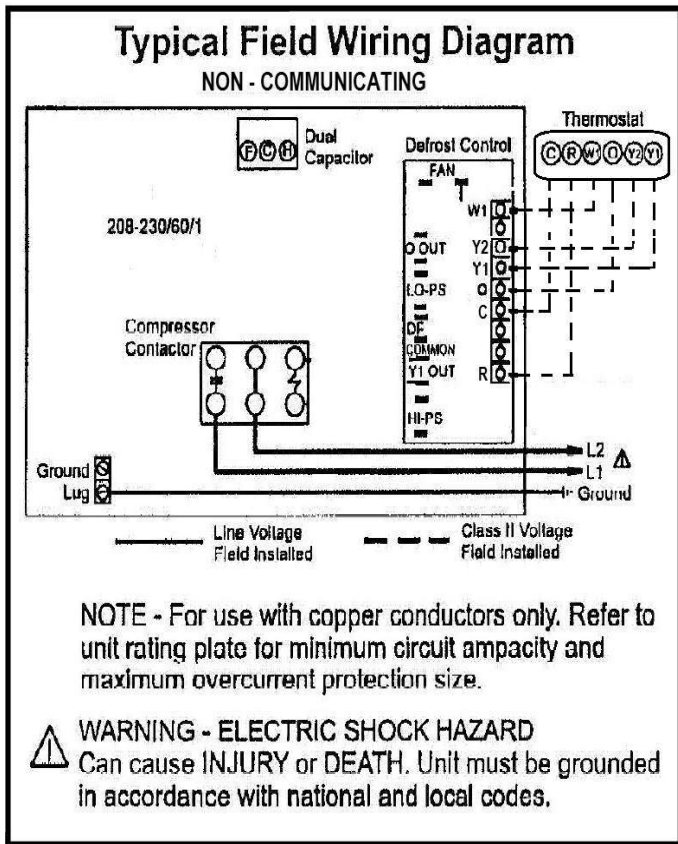

Figure 4
2. Ground unit at unit disconnect switch or to an earth ground. To facilitate conduit, a hole is in the bottom of the control box. Connect conduit to the control box using a proper conduit fitting. Units are approved for use only with copper conductors. 24V Class II circuit connections are made in the low voltage junction box. Refer to Figure 4 for high voltage field wiring diagram. A complete unit wiring diagram is located inside the unit control box cover and in the back of this document.